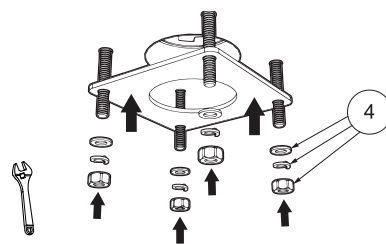

Figure 7
4. From underneath, install the holding plate (3), washers, lock washers, and nuts (4) as shown in Figure 7. Tighten all four nuts securely with a wrench, in an alternating star pattern for consistent stability.